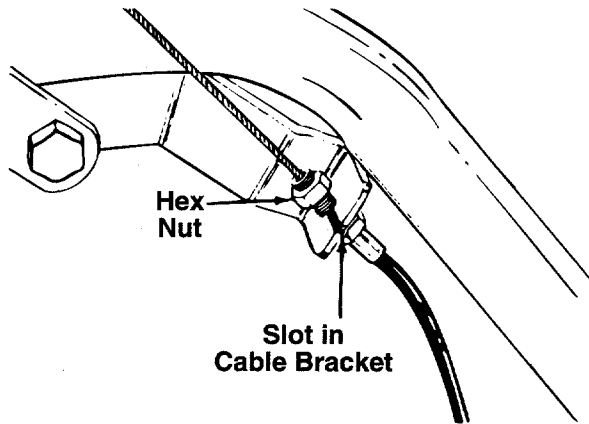

FIGURE 6.
15. Remove one hex nut from the end of the casing on the clutch cable. Slip the wire through the slot on the cable bracket on the left handle. Push the end of the casing up through the cable bracket. Rethread the hex nut on the end of the cable. Do not tighten at this time. See figure 6.